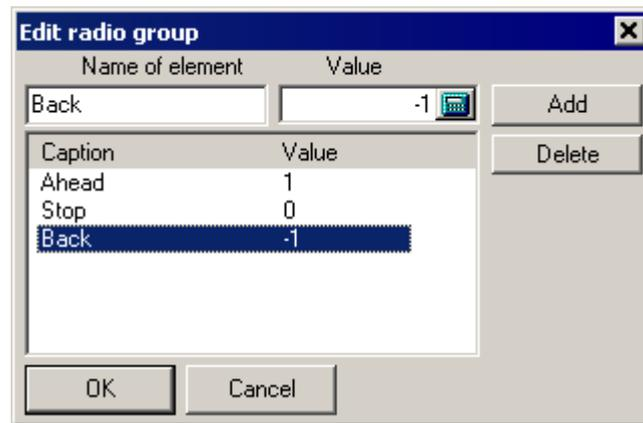

Figure 4.77. Edit radio group
- **Values** describes relations between names in the list and values of the identifier (Figure 4.77);